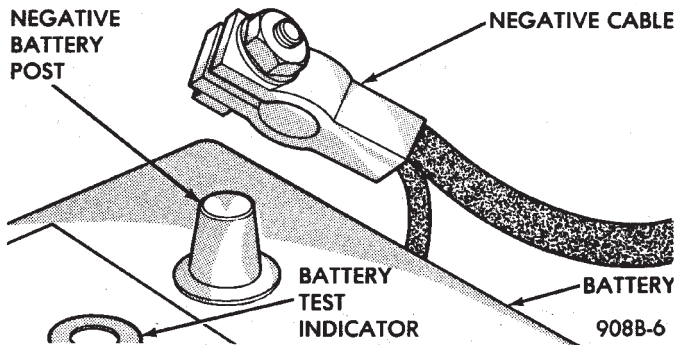
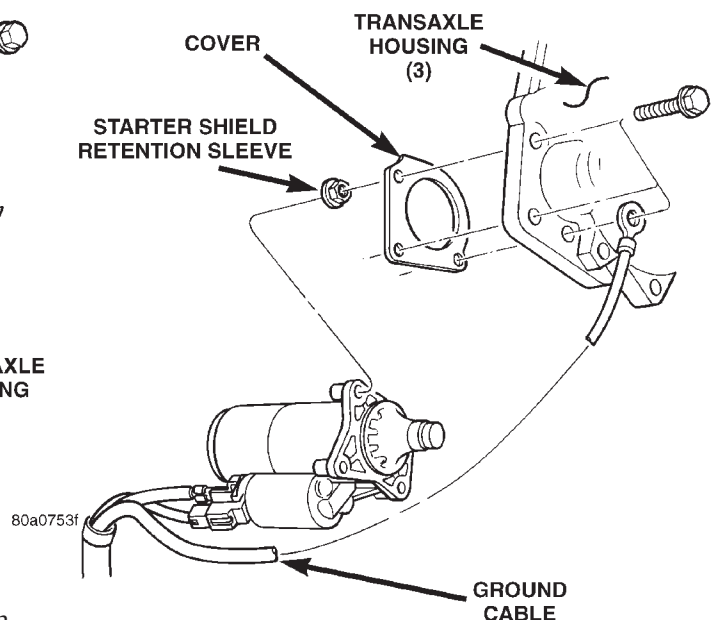

Fig. 8 Remove and Install Battery Cable
Fig. 11 Starter – 3.5 L Engine
- (1) Disconnect battery negative cable (Fig. 8).
- (2) Raise vehicle.
- (3) For easier servicing, do not remove the wiring from starter at this time.
- (4) Remove three bolts attaching starter to engine (Fig. 11).